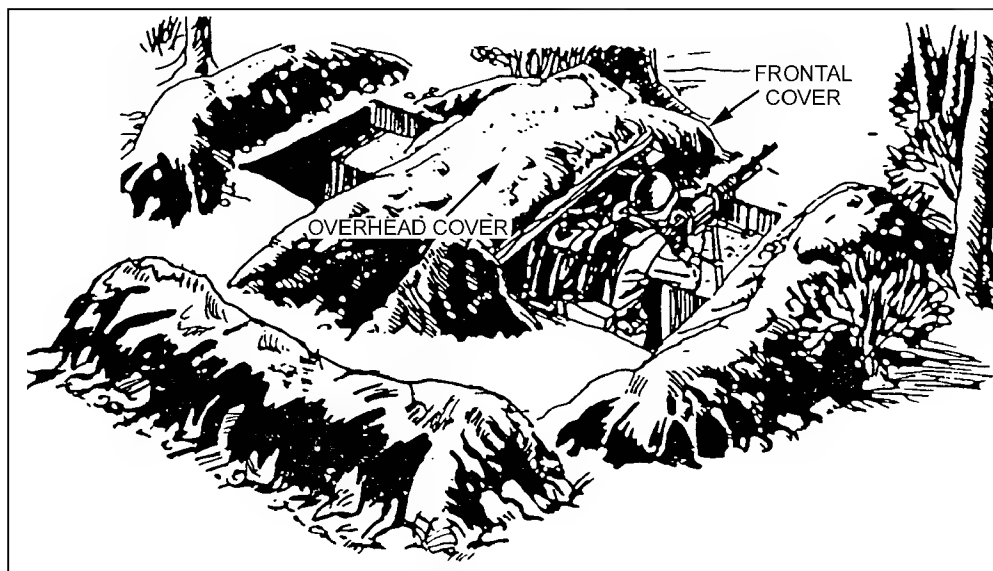

Figure 4-6. Fighting position, tripod-supported.
d. **Fighting Position, Tripod-Supported.** (Figure 4-6.) The gunner places his right (firing side) foot sideways against the rear of the fighting position and leans forward until his chest is squarely against the wall.
(1) The gunner, grasps the pistol grip with his firing hand with the fleshy end of his index finger resting lightly on the trigger.
(2) Places his left hand on the elevating handwheel, palm down, exerting a firm downward pressure to make either minor or major adjustments in deflection or elevation. (The weapon is stabilized by the support of the tripod.)
(3) Places his elbows on the inside and does not touch the tripod.
(4) Places little or no pressure against the stock of the gun.
(5) Rests his cheek lightly, if at all, against the stock.